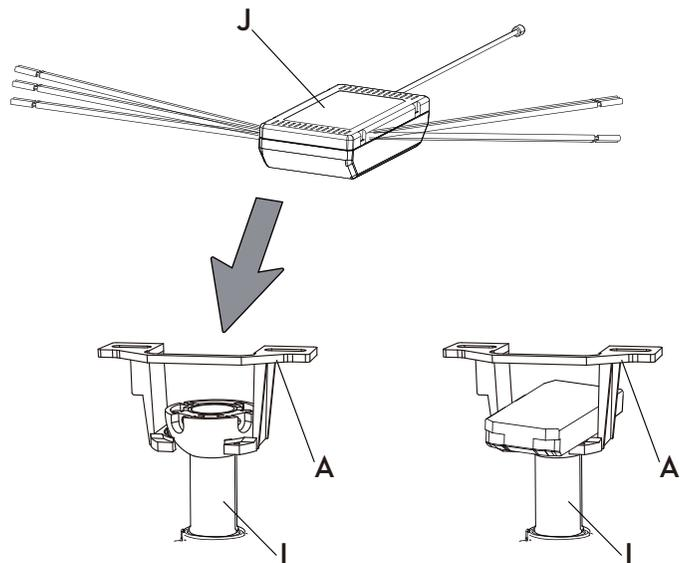

Figure 8
- Position the house supply wires to one side of the mounting bracket (A); position the fan wires to the opposite side.
- Insert the narrow end of the receiver (J) (Figure 8, flat side towards the ceiling) into the mounting bracket (A) until it rests on top of the ball/downrod assembly (I).